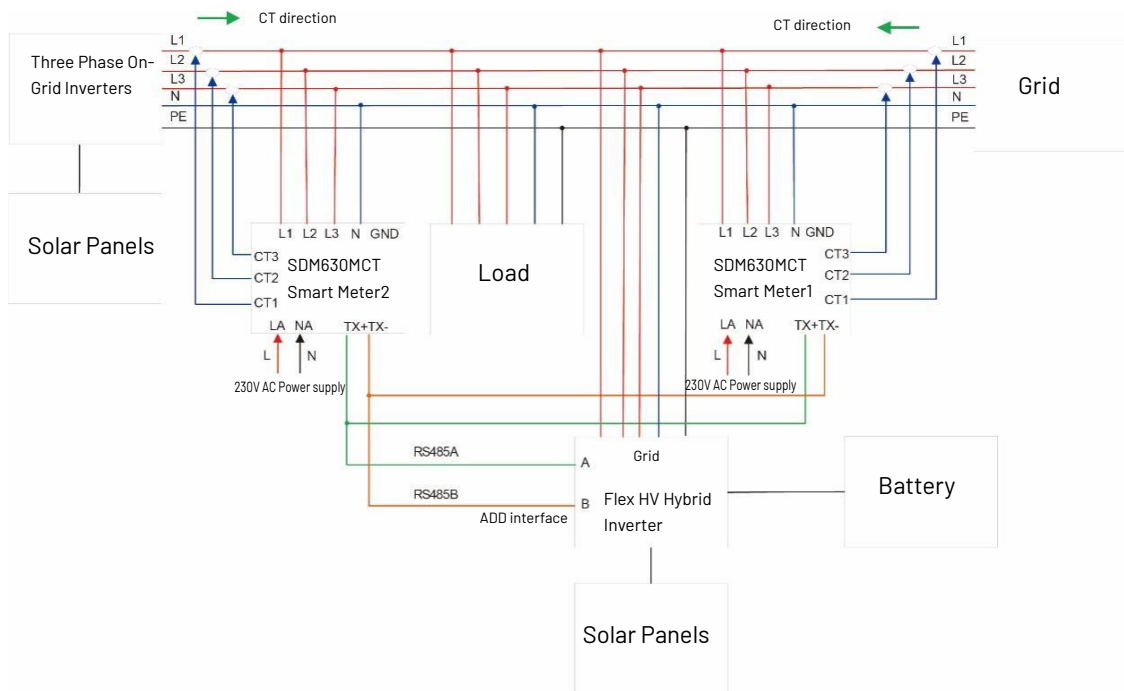

Figure 5-27 Connect one On-Grid three-phase inverter
3) Connect one On-Grid three-phase inverter (Figure 5-27): The local address needs to be set as "001" on the inverter screen, and meter1 address set as "001", meter2 address set as "002". The address of meter1 itself needs to be set to "001", and meter2 needs to be set to "002".